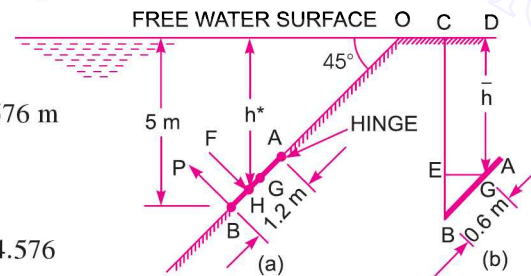

Fig. 3.23
**Problem 3.18** An inclined rectangular sluice gate AB, 1.2 m by 5 m size as shown in Fig. 3.23 is installed to control the discharge of water. The end A is hinged. Determine the force normal to the gate applied at B to open it.
But from Fig. 3.23 (a),  $\frac{h^*}{OH} = \sin 45^\circ$